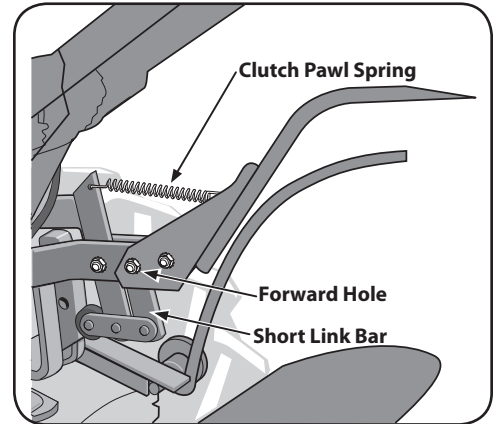

Figure 3-10
6. Pull the Wheels/Tines/PTO Lever back to align the forward most holes in the yoke plate with the holes in the lever plates. Also align the bushing that is inside the short link bar. Install the screw, star washer and nut, then tighten securely. Securely tighten all other hardware. Also ensure that the spring is properly seated at both ends. Completed assembly should appear as illustrated in Figure 3-10.